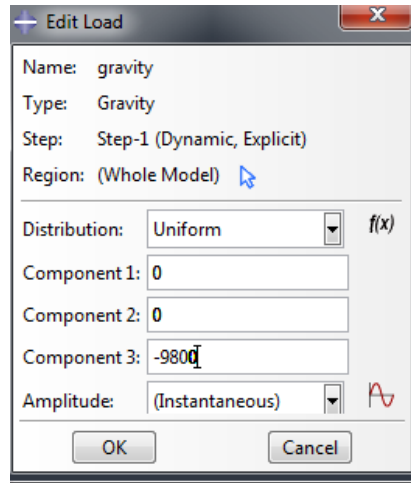

Figure L1a-13. Definition of gravity load.
3. By default the Whole Model will be selected for the gravity load application. Fill in the components of the gravity load as shown in Figure L1a-13.